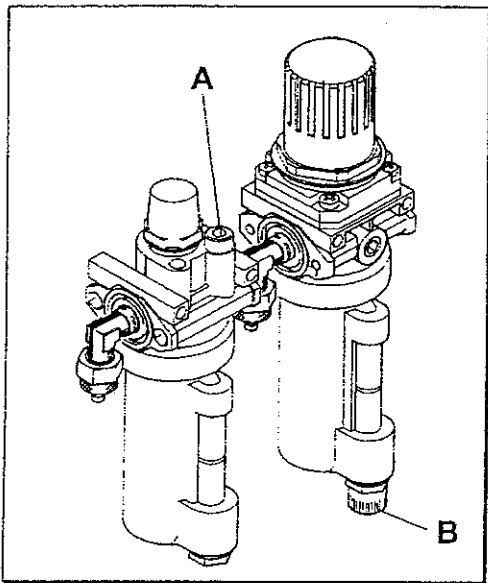

Fig.32
I. If the machine is equipped with an automatic air lubricator, check the oil level weekly. When adding oil to the lubricator, disconnect the air supply first, remove the fill screw 'A', and add oil as needed. Make sure seals are in place when replacing the cap. Drain water daily from water separator. Do this by pulling down the fitting 'B' (Fig.32).